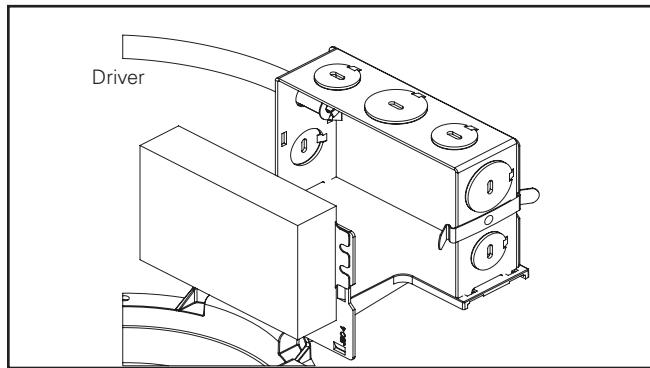

Figure 43.
4. Connect supply lead wires to junction box lead wires (line, neutral and ground) in the fixture using the provided connectors. (Figure 43). Be careful not to leave any bare conductors outside of the connectors.
2. Remove the driver and junction box cover assembly. (Figure 43).